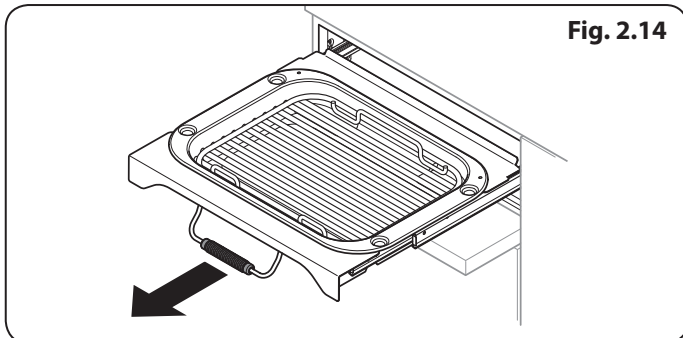

Fig. 2.14
1. Open the door and pull the broiler pan carriage forward using the handle (Fig. 2.14).